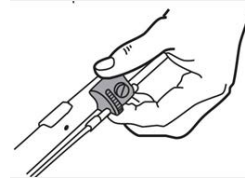

Fig 6
3. If the engagement point is incorrect, adjust it by rotating the thumb-wheel on the anchor block at the top of the cable outer sleeve. Rotating the wheel clockwise will move the clutch engagement point nearer to the bail closed position, and anti-clockwise will move it toward the bail open position (Fig 6).